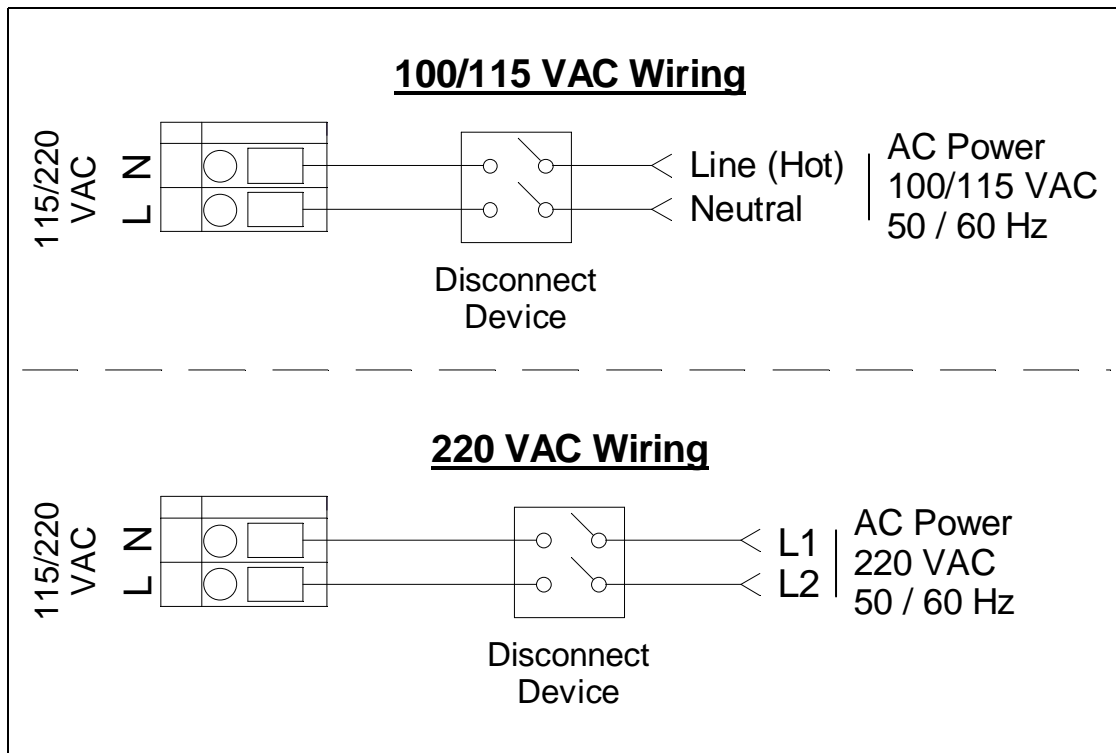

Figure 10: AC Power Wiring
6. Connect the AC wires to the 115/220 VAC Input Terminal Strip as shown in Figure 10 below.